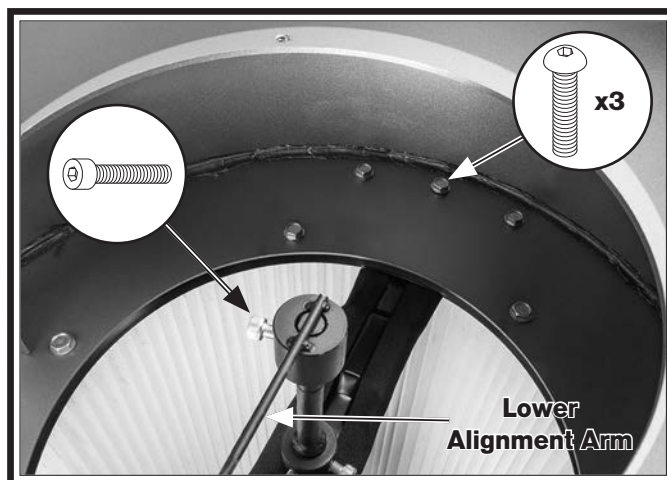

Figure 75. Lower alignment arm and rear panel attachment locations.
12. Attach lower alignment arm to top of new canister filter spindle and secure with cap screw (see **Figure 75**).
13. Attach rear panel to housing assembly with (3) button head cap screws removed in **Step 5** (see **Figure 75**).